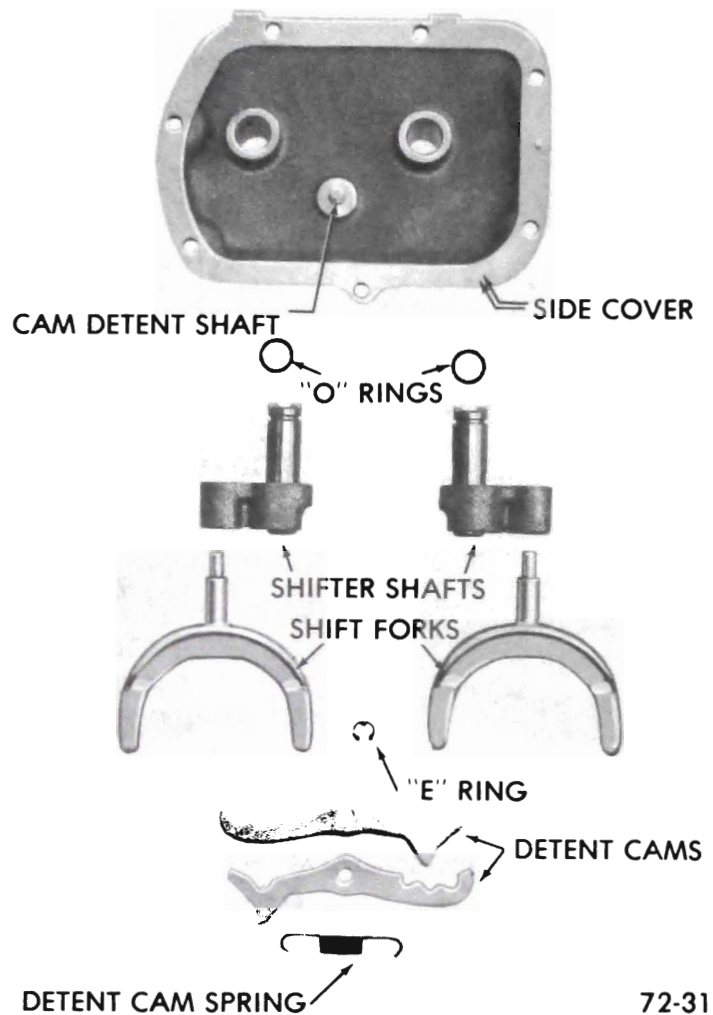

Figure 72-29 - Exploded View of Side Cover
**72-8 SIDE COVER ASSEMBLY****A. Disassembly (See Figure 72-29)**
**B. Assembly (See Figure 72-29)**